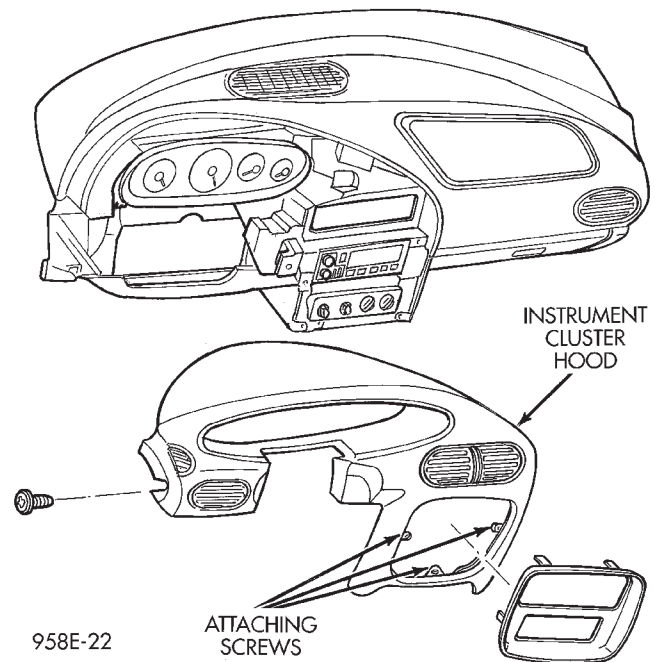

Fig. 4 Instrument Cluster Hood
- (4) Remove instrument cluster hood (Fig. 4).